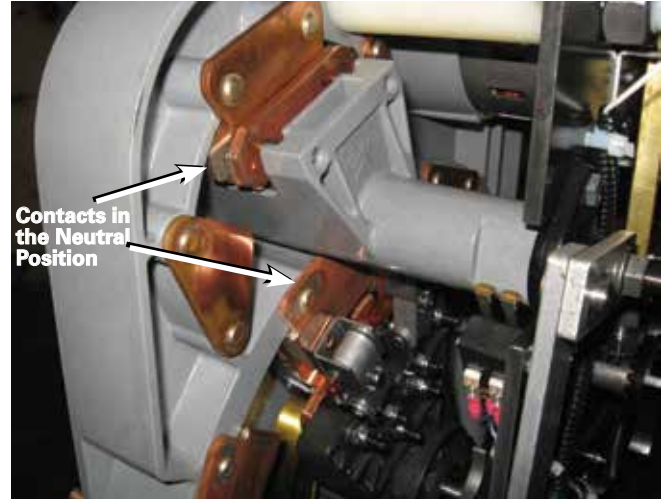

Figure 129. Neutral position.
2. The tap-changer should be in the neutral position before starting the replacement procedure. Refer to Figure 129. If the tap-changer is not in the neutral position, turn the shaft on the back of the motor shaft using a 3/8" socket on a ratchet until the QD5 tap-changer is in the neutral position.